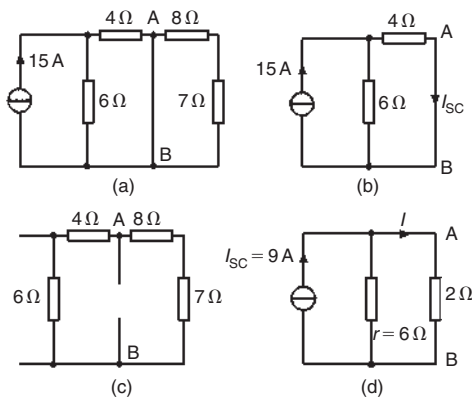

Figure 13.63
- (i) The 2Ω resistance branch is short-circuited as shown in Fig. 13.63(a)
- (ii) Fig. 13.63(b) is equivalent to Fig. 13.63(a). Hence
- (iii) If the 15 A current source is replaced by an open-circuit then from Fig. 13.63(c) the resistance 'looking-in' at a break made between A and B is given by $(6+4) \Omega$ in parallel with $(8+7) \Omega$, i.e.
- (iv) From the Norton equivalent network shown in Fig. 13.63(d) the current in the 2Ω resistance is given by: